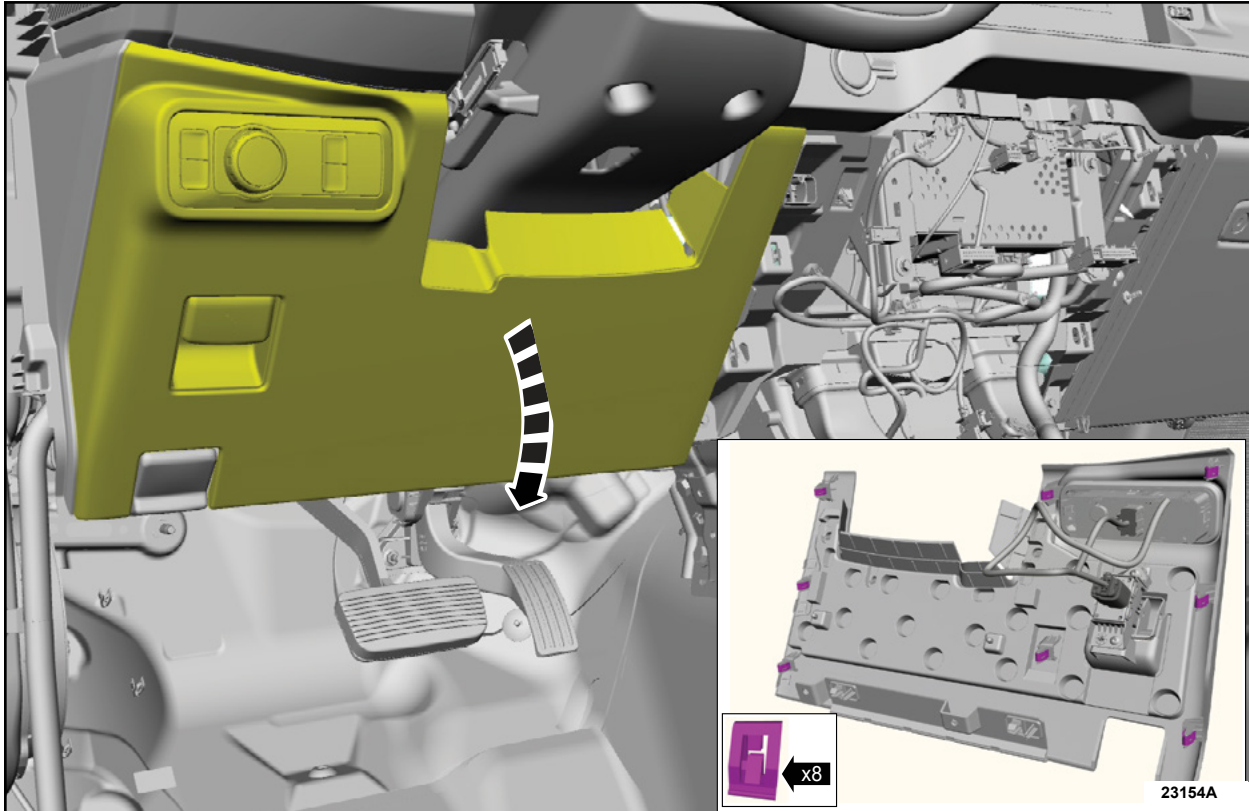

FIGURE 2
1. Release the clips and rotate the lower steering column trim panel downward. See Figure 2.